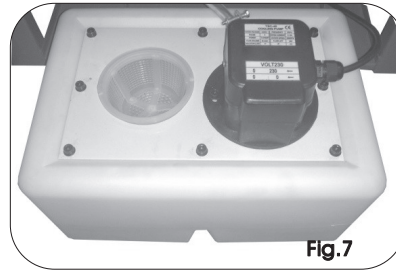

Fig.7
1. Slide the coolant tank out from the rear of the bandsaw (Fig.7).
4. Open the coolant tap (Page 10, ref. 22).
5. Turn the coolant switch on the control panel to on (I).